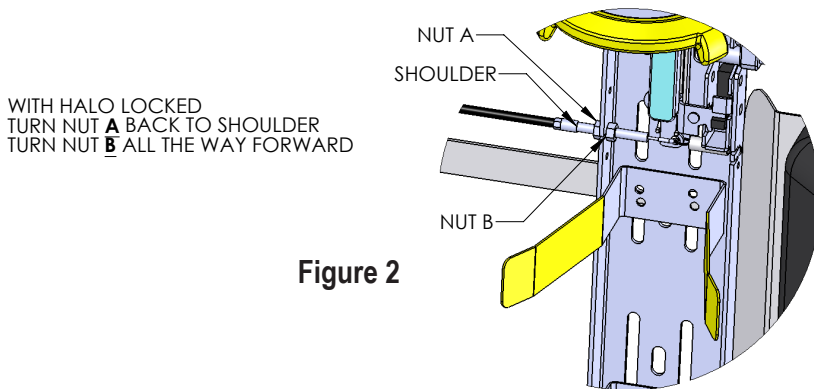

**Figure 1**
1. First, the position of the foot plate must be located, as in (Figure 1). Place the tank spring bracket on back plate, with the halo in the closed position, place a cylinder into halo and allow it to rest on tank centering spring bracket, with the tank "tight" or pushed fully in to the halo, adjust the foot plate to fit the tank height or length as shown in (Figure 1).